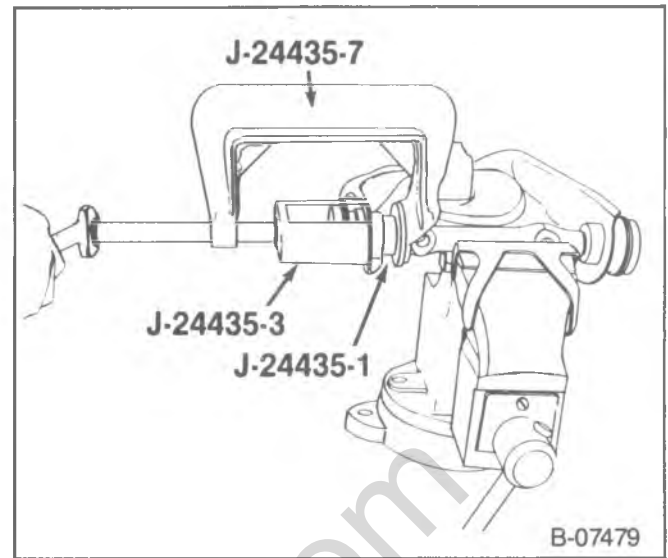

Figure 28—Removing the Upper Control Arm Bushings (R10/1500, G10/1500 and G20/2500 Models)
- Upper control arm (28).
- Nuts (24), bushings (26) and the pivot shaft (29) from the upper control arm (28).
- Use J-24435-1, J-24435-3, and J-24435-7 (figure 28).
- Tighten J-24435-7 to remove the bushing (26).
- Pivot shaft (29) can be pulled free at this time.
- Repeat this procedure on the remaining bushing (26). Discard the old bushings.